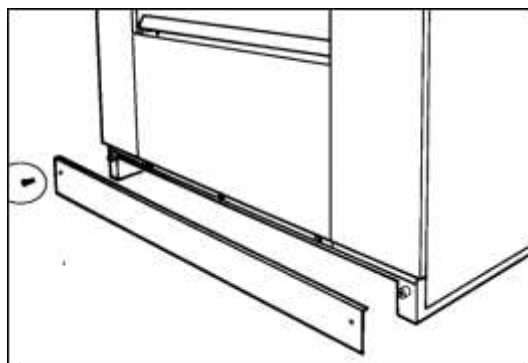

Fig. 2.12
- Assemble the toe plate (Fig. 2.12).